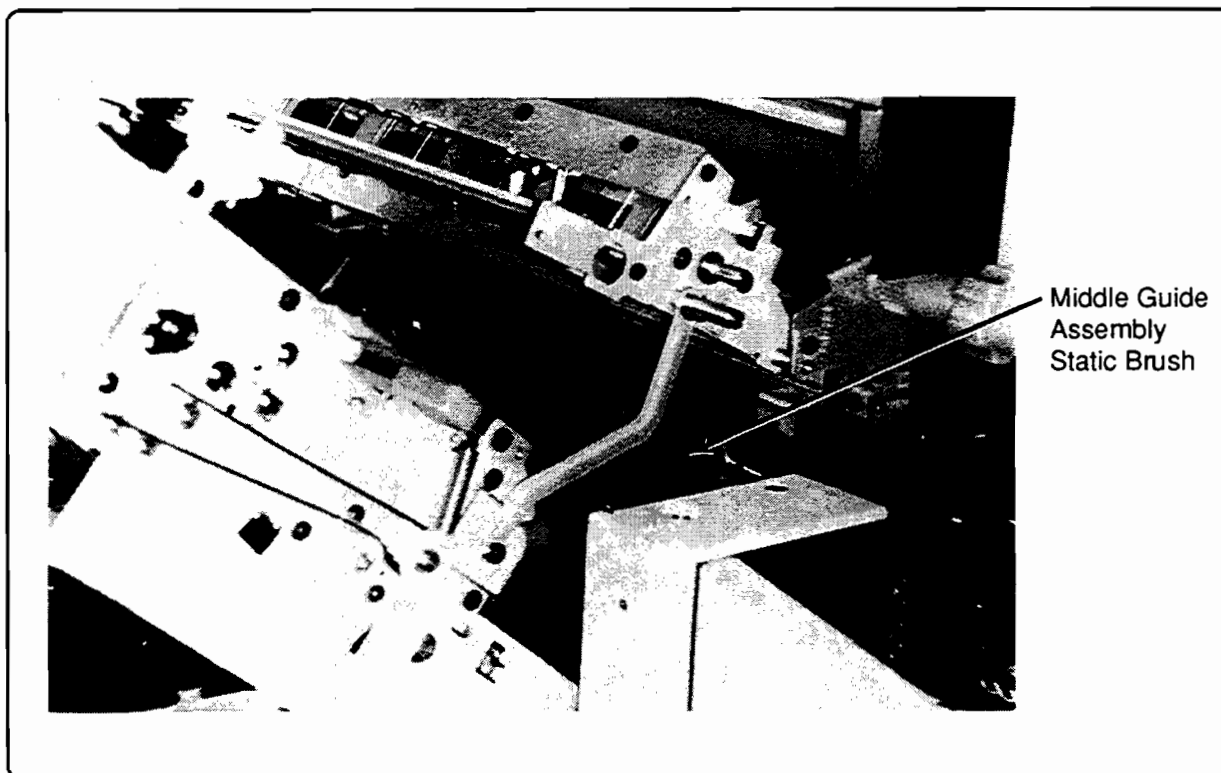

Figure 4-17. Middle Guide Assembly Static Brush
2. Replace the middle guide assembly static brush with updated version, P/N RA1-7155-020CN (Service Note 2684-5). Put the part number on the brush and mark it "Updated *mo/year*" so you or another CE will know it has been updated (Figure 4-17). If already updated, inspect for wear and/or missing conductive fibers and replace, if necessary.